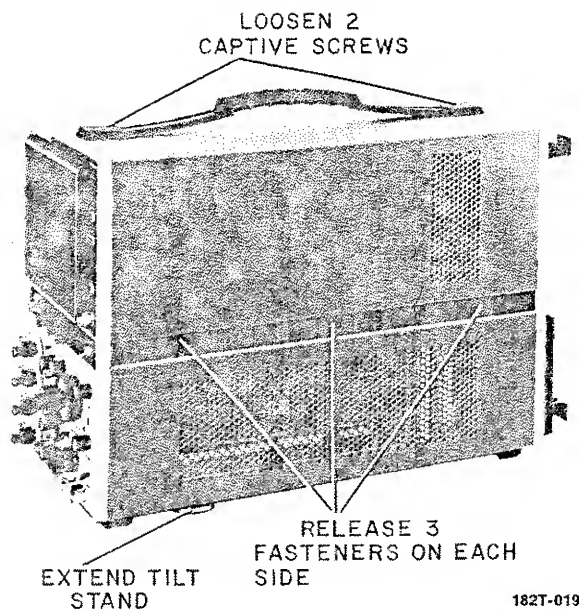

Figure 8-2. Cover Removal
- Release the three-quarter-turn fasteners located on each side of the instrument. The cover retainers will be completely free. Figure 8-2 shows the location of the fasteners.